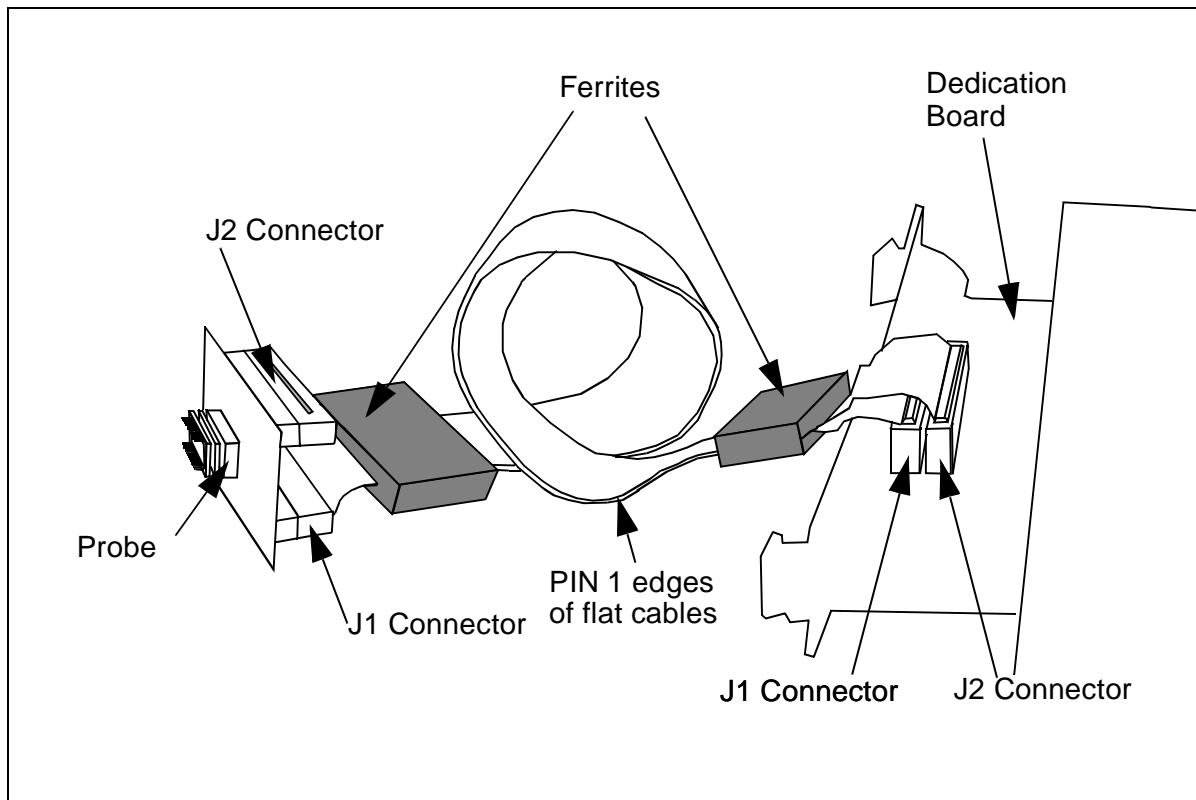

Figure 7: Installing the Flat Cables
- 2 Connect the two flat cables between the dedication board and the emulator probe as follows (refer to *Figure 7*):
- 4 Clip the two ferrites to the flat cables, positioning them as close as possible to each end of the flat cables (see *Figure 7*).